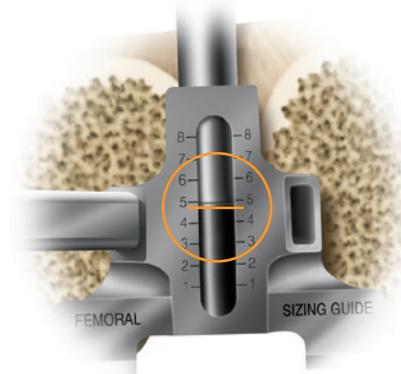

Figure 19
- 2 Read the size indicated by the line across the stylus shaft and choose the smaller size if in-between two sizes (Figure 19).